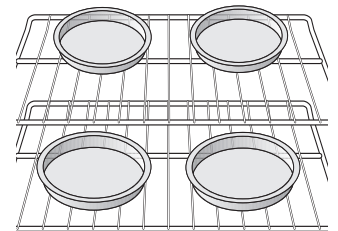

Figure 26: Pan spacing
- When baking using two oven racks, position cookware as shown in Figure 26. Allow at least 2 inches (5 cm) of space between cookware for proper air circulation.